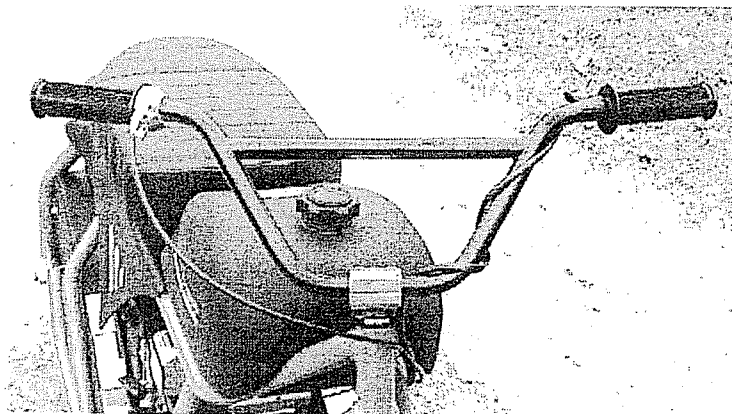

Figure 1: Cable Routing
11. Rout the Throttle Cable as shown in Figure 1.
13. Rotate the Twist Grip so that the Throttle Cable points downward and slightly ahead as shown in Figure 1. The Throttle Cable should form a smooth curve from the Twist Grip to the Frame.
14. Tighten the two (2) screws in the Twist Grip securely.